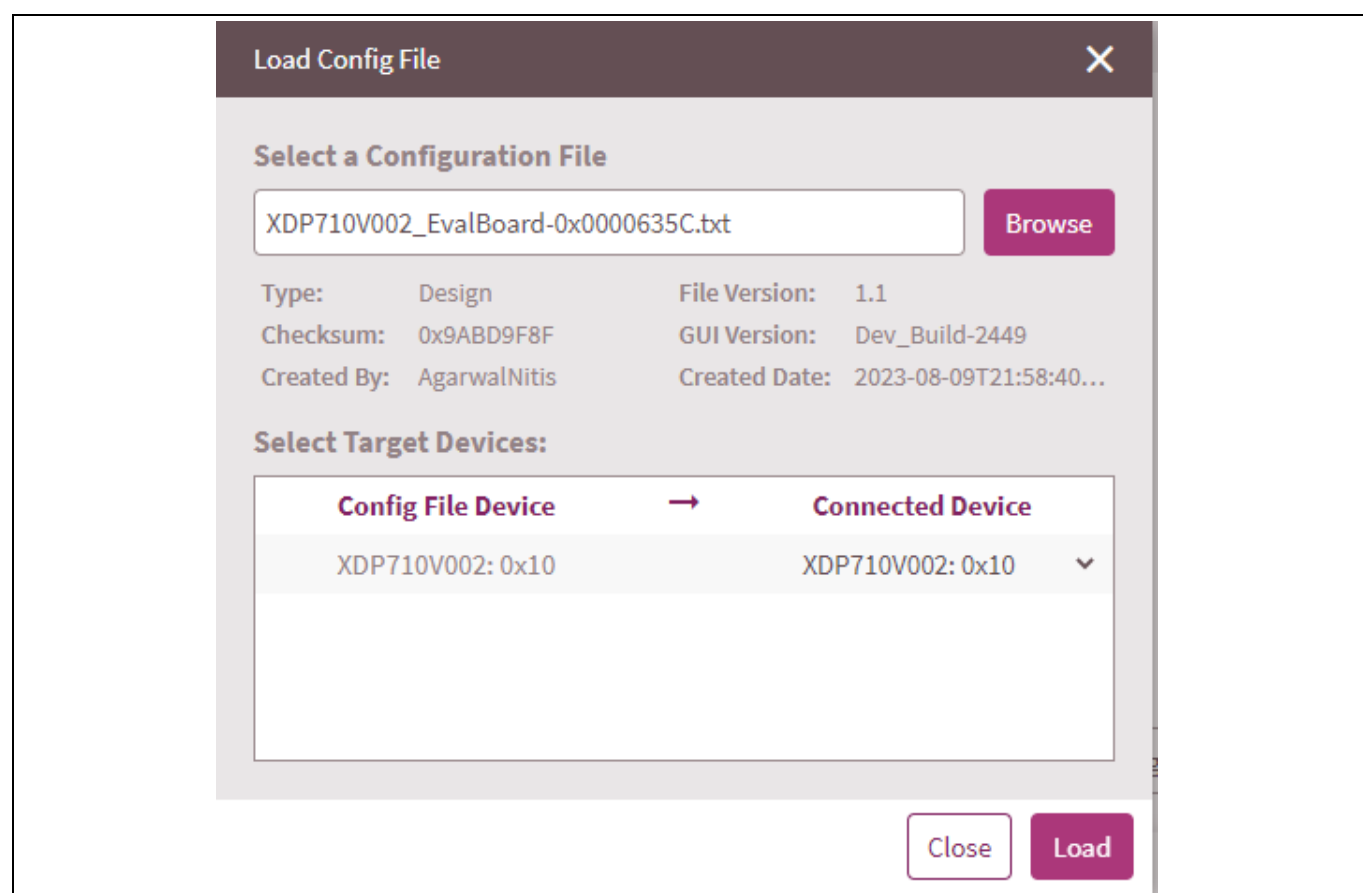

Figure 36 Click on “Load” to load the selected configuration file
- Then click on “Load”, and it will load the necessary configuration onto the device, as shown in Figure 36.